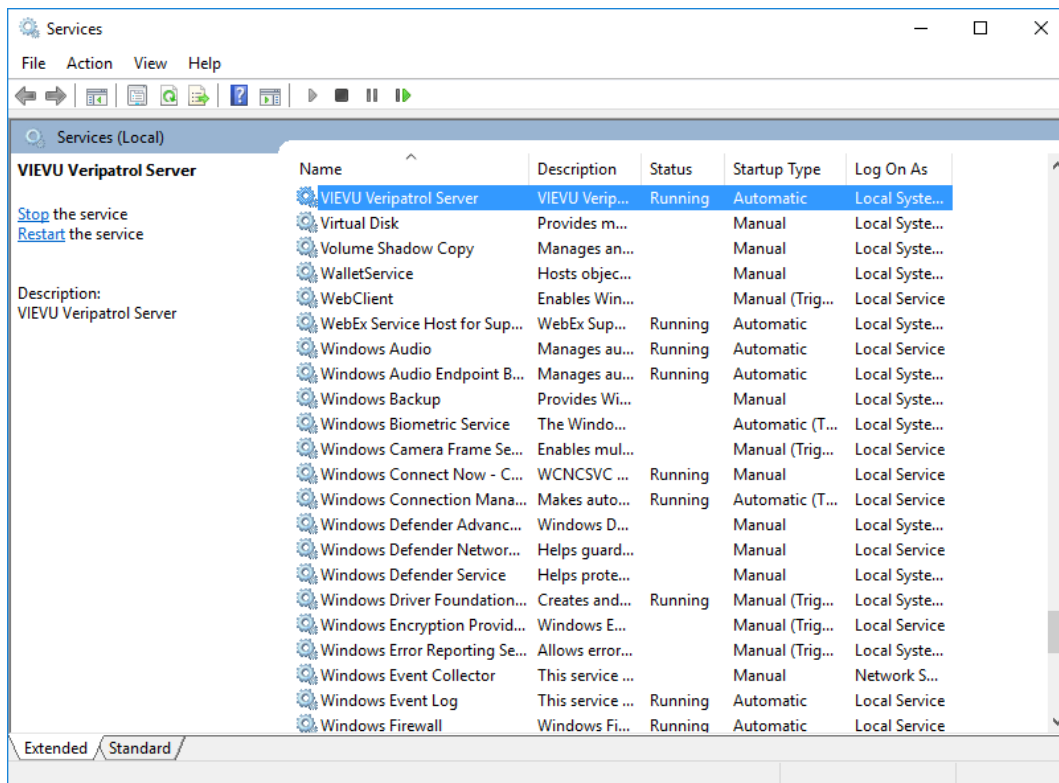

Figure 7
4. The services window is displayed (Figure 7).